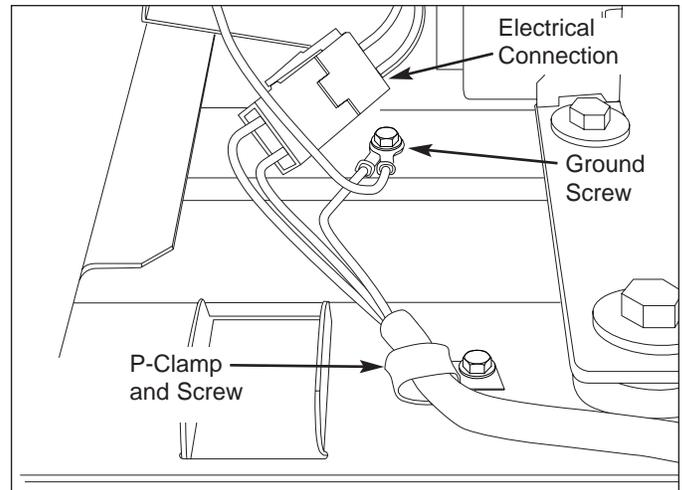

Figure 5-23. Power Cord Removal
3. Using a 1/4" socket or wrench, extract the screw securing the P-clamp to the compressor mounting plate. (See Figure 5-23)